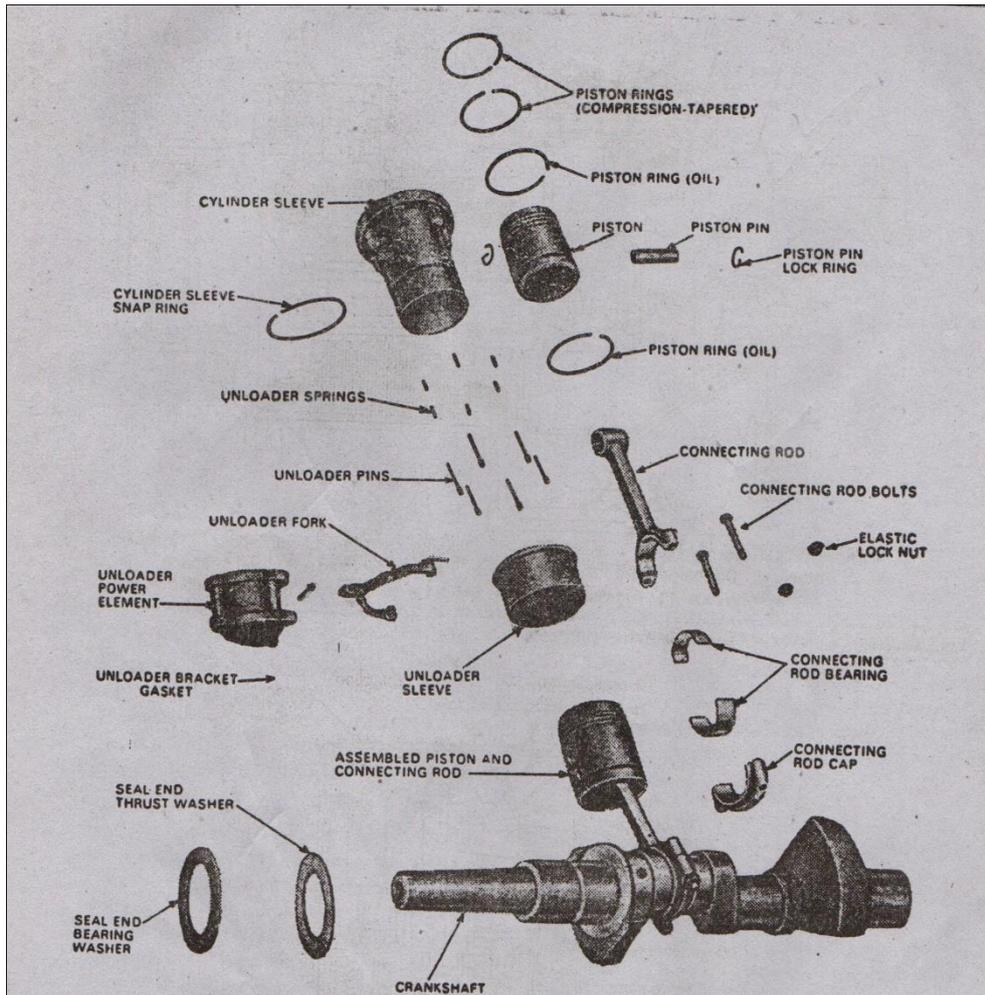

Fig. 1.9
**Cylinder** In small compressors, the cylinder (Fig. 1.9) is formed by precision boring the main body which is usually constructed of closed-grained cast iron. In large-sized compressors, the cylinder is made separately and fitted into the main body. Such a cylinder is called a cylinder sleeve or liner. With a removable cylinder sleeve, it becomes easier and cheaper to replace a sleeve than the complete compressor body, when the cylinder-bore has worn out.
**Piston** A piston (Fig. 1.9) is a cylindrical metal plug that moves up and down in the cylinder Pistons are made of cast iron or aluminum. The piston must be just loose enough to move freely in the cylinder.